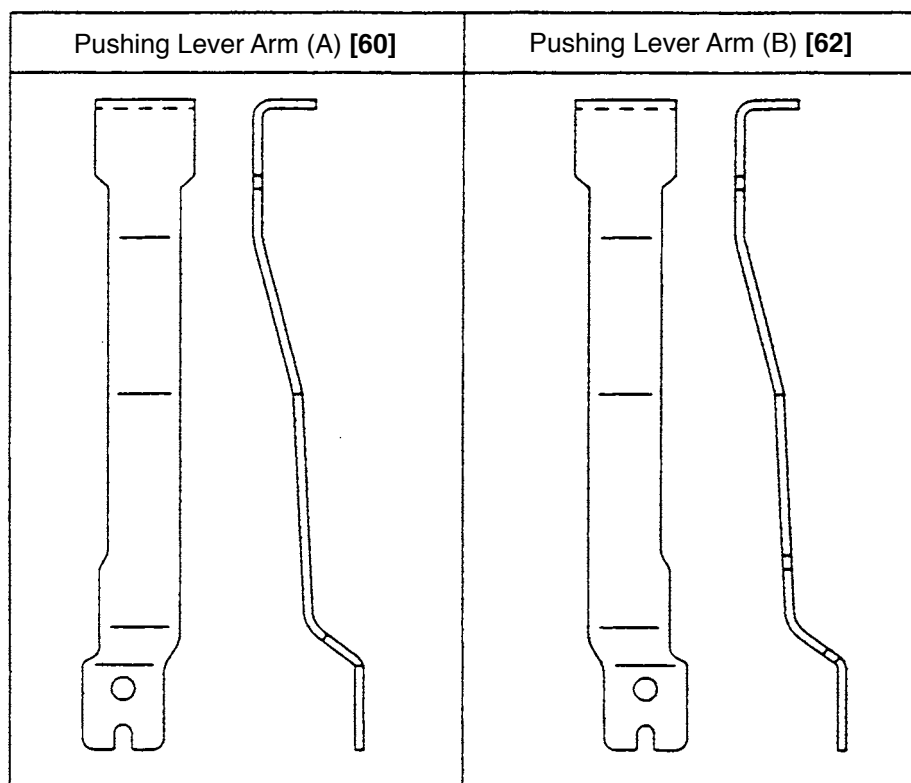

Fig. 42
- Be careful of the mounting direction of Pushing Lever Arms (A) **[60]** and (B) **[62]** (Fig. 42). Align the notch of Pushing Lever Arm (A) **[60]** or (B) **[62]** with the convex portion of the Pushing Lever Connector **[68]**. Secure the U-Nut M4 **[59]** with a spanner (7 mm (0.276")) or slender hd. pliers and tighten the Hex. Socket Hd. Bolt M4 x 10 **[61]**.